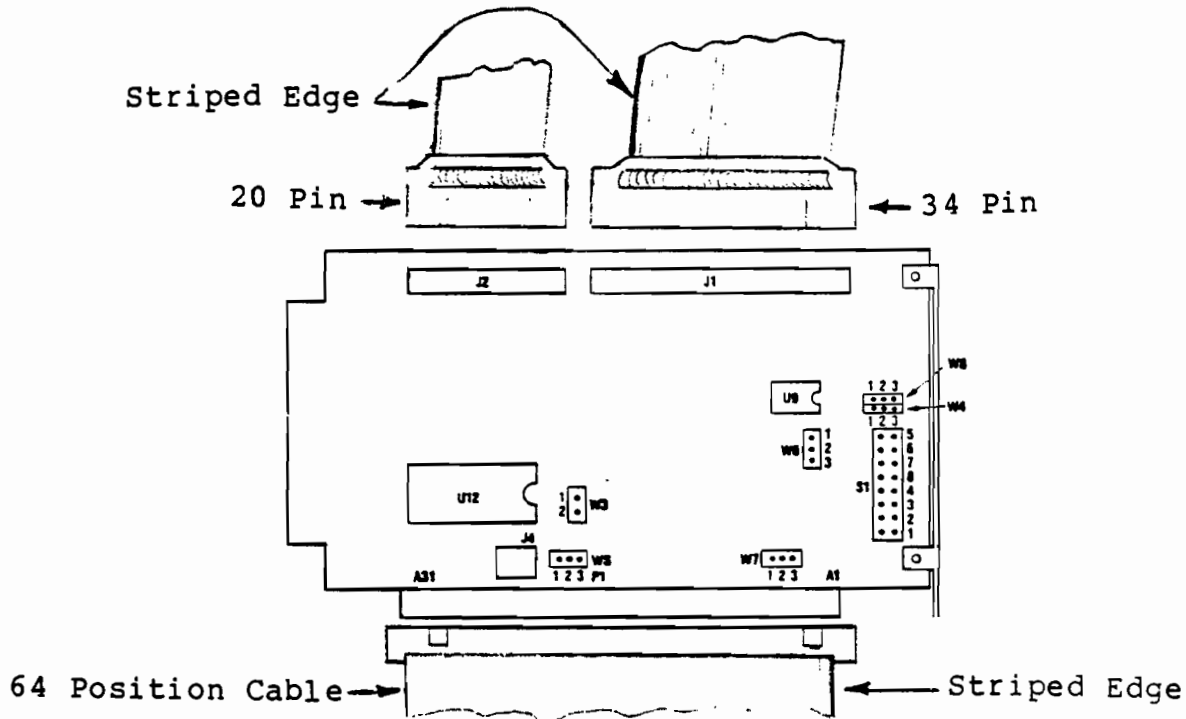

Figure 6
12. Insert the end marked A1 of the 64 position ribbon cable onto the gold fingerboard of the Western Digital controller card. Pin 1 of the cable, marked with a striped edge, must be located on the right as you look at the component side of the board. See figure 6 on page 10.
13. Insert the 34 position hard disk cable onto J1 of the Western Digital controller board. Pin 1 is on the left of header J1. Likewise connect the 20 position hard disk cable to J2. Pin 1 is also on the left of J2. See figure 6.
10. Locate the the 64 position ribbon cable. Insert the end marked A1 onto the gold fingerboard of the Western Digital controller card. Pin 1 of the cable, marked with a striped edge, must be located on the right as you look at the component side of the board. See figure 6 on page 10.
11. Insert the 34 position hard disk cable onto J1 of the Western Digital controller board. Pin 1 is on the left of header J1. Likewise connect the 20 position hard disk cable to J2. Pin 1 is also on the left of J2. Again see figure 6 on page 10.
4. Locate the the 64 position ribbon cable. Insert the end marked A1 onto the gold fingerboard of the Western Digital controller card. Pin 1 of the cable, marked with a striped edge, must be located on the right as you look at the component side of the board. See figure 6 on page 10.
9. Insert the 34 position hard disk cable onto J1 of the Western Digital controller board. Pin 1 is on the left of header J1. Likewise connect the 20 position hard disk cable to J2. Pin 1 is also on the left of J2. See figure 6 on page 10.